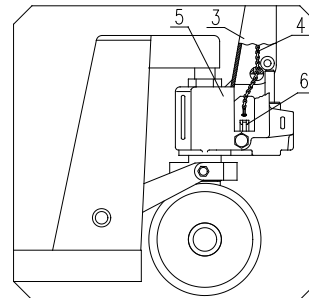
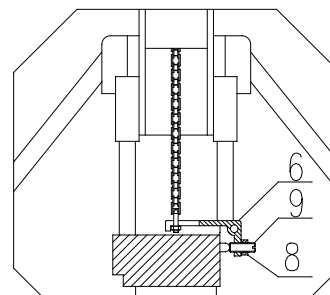

Fig. 2
Fig. 4
3.4 See fig 2. Put the chain 4 of hand grip get across the middle hole of pin roll 1.
- 3.5 Take screw nut which is at the end of chain 4 and hitch the groove of lever board 6. See fig 2 and fig 4.
4.2 The screw 9 in fig 4 is used to adjust the truck situation. When the truck body drops immediately after it is lifted, you should turn the screw 9 a little counter-clockwise. And then try the truck again until truck body could lift normally. If the truck body couldn't drop after it is lifted, you should turn the screw 9 a little clockwise. And then try to operate truck again until the truck body could drop normally. The external hexagon nut 8 at screw 9 plays the locking function in the truck. So you should undo the external hexagon nut 10 before adjustment. And screw down the nut 8 after you finish the adjustment.